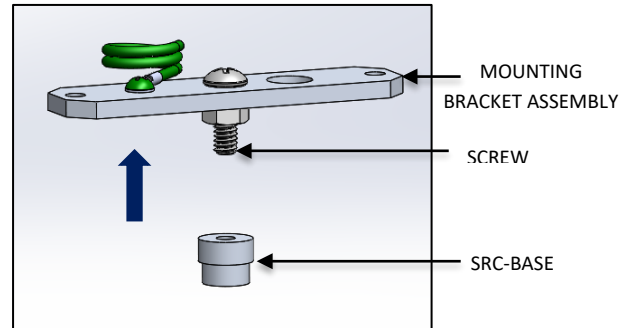

FIG. 19 – SRC-BASE INSTALLATION
2. Assemble the SRC BASE to the SCREW (Available in mounting bracket assembly) as shown below in FIG.19.